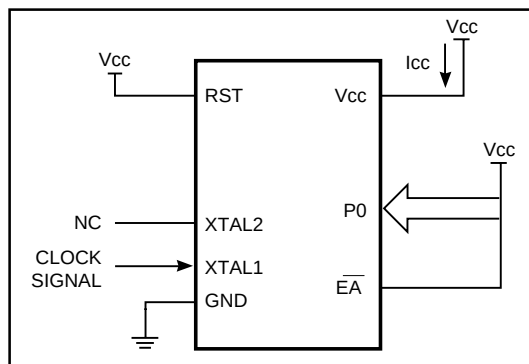

Figure 28. Active Mode
1. See Figures 28, 29, 30, and 31 for I_{CC} test conditions.